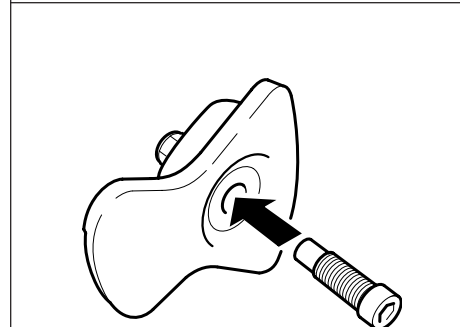

Fig. 3
- Insert the locking bolt into the rim specific insert. (Fig. 3)
Fixed ball - Loop the cable around the neck of the towball. If you fit the cable like this, use a single loop only. (See Figs. 3 and 4).